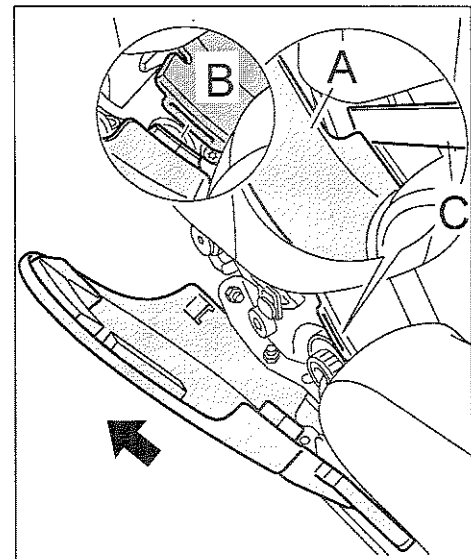

Figure 6
- 2.1.6 Insert a plastic wedge ⇒ *Figure 6 -C-* between the backrest cover ⇒ *Figure 6 -A-* and the inner cover and carefully lever open until the locking tabs and groove ⇒ *Figure 6 -B-* separate. Take backrest cover off to the rear.